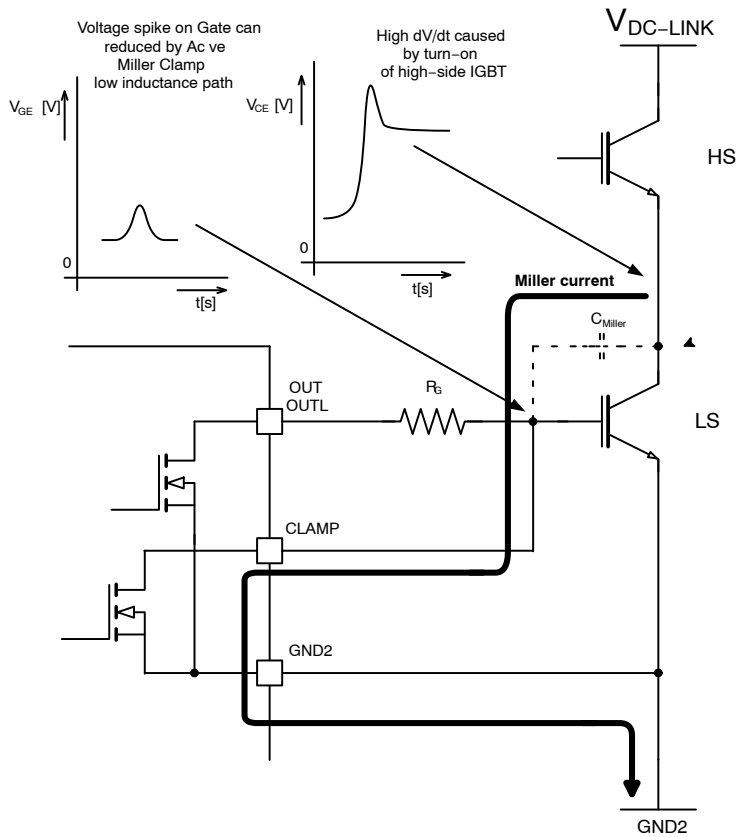
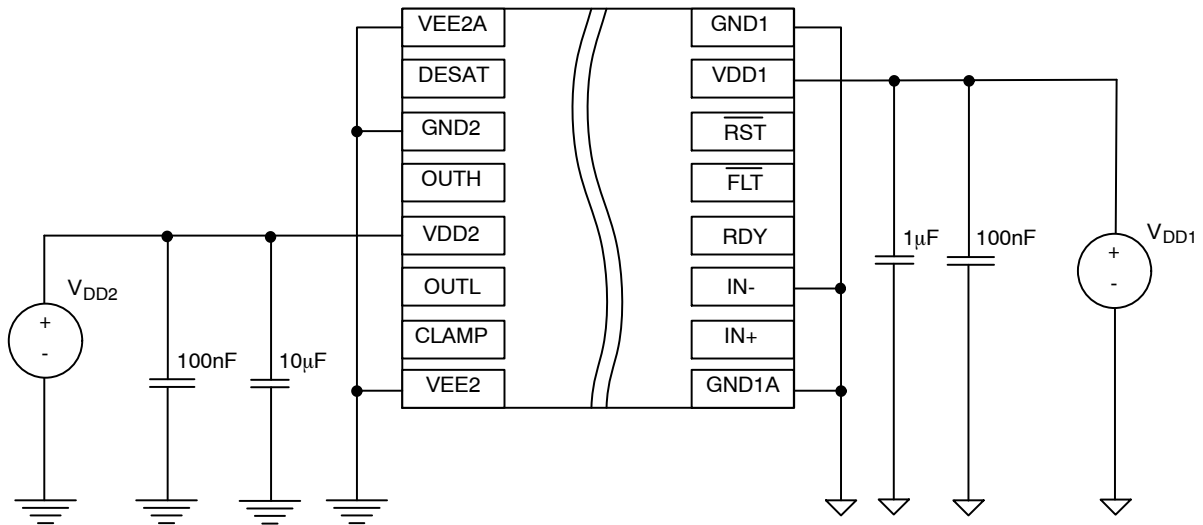

Figure 38. Current Path with Miller Clamp Protection
Figure 42. Unipolar Power Supply
- In Unipolar power supply the driver is typically supplied with a positive voltage of 15 V at VDD2 (Figure 42). Dynamic turn on throughout the internal IGBT input capacitance could be prevented by Active Miller Clamp function. CLAMP output should be directly connected to IGBT gate (Figure 38).